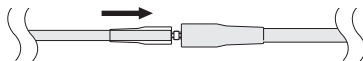

Figure 10. Sliding the strain-relief sleeve over the connector pin.
9. Slide the transparent strain-relief sleeve of the spinal segment towards the connector pin until the sleeve snaps into place (Figure 10).